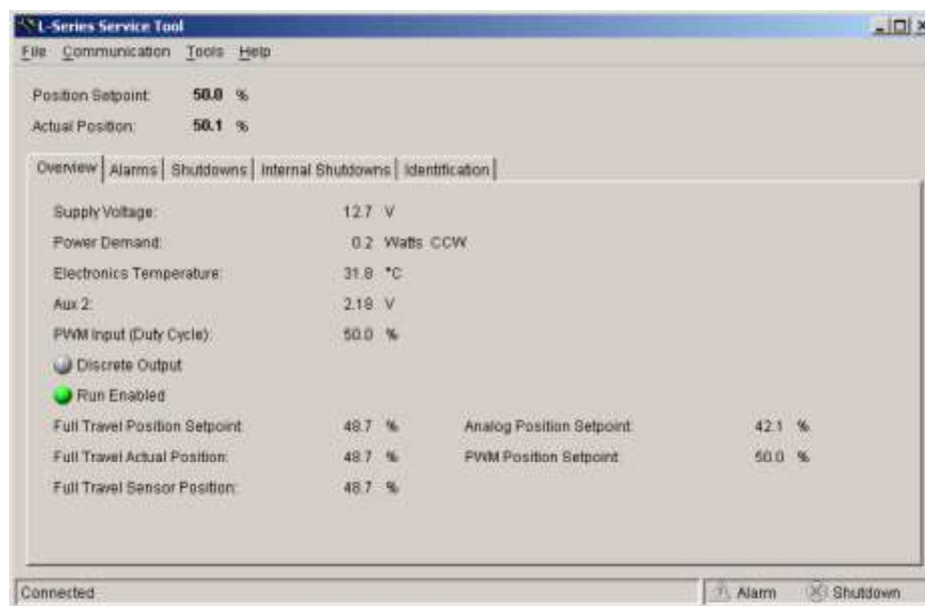

Figure 4-11. Service Tool—Overview Tab
- Overview (Figure 4-11)
To monitor the overview parameters, go to the Overview page (Figure 4-11) on the main window.